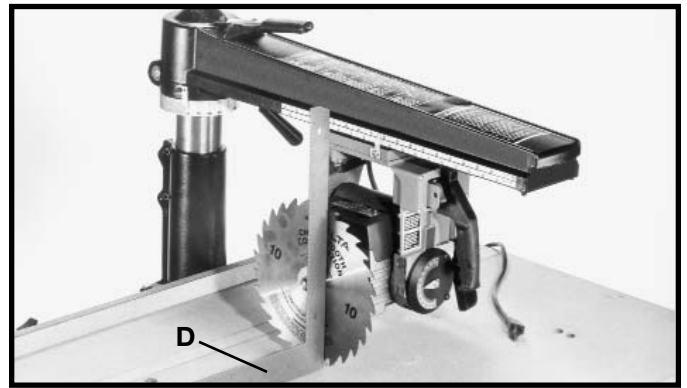

Fig. 41
3. Place the cutting-head in a cross-cut position as shown in Fig. 41. Lower track arm until the saw blade is just clear of the table and slide the cutting-head forward until it is positioned over the front table board; clamp the cutting-head in position as shown in Fig. 41.
5. Place a square (D) Fig. 41, on the table and against the saw blade, as shown, and check to see if the blade is square with the table. **NOTE: The square should rest between two teeth of the saw blade.**